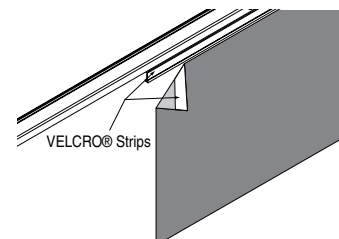

Figure 7
- ① Attach fabric panels to sliding Fabric Panel Attachment Arms using the affixed Hook & Loop attachment strip along the top of each panel (see Fig. 7).